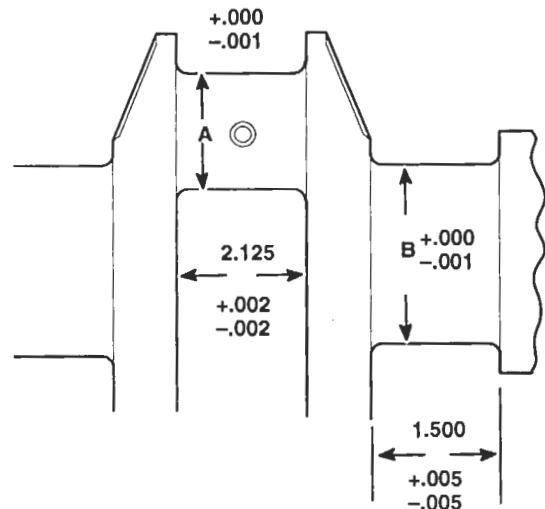

Figure 3. Dimensions of Crankshaft Journals
Measure all of the main and connecting rod bearing journals (Figure 3.) Measure the journals at several places on the circumference so that taper, out-of-round and bearing clearances can be determined. If the crankshaft is worn so that the maximum journal-to-bearing shell clearance (with new shells) exceeds .0044 inches, the crankshaft must be reground. Measurements of the crankshaft should be accurate to the nearest .0002 inch. Also, if the journal taper of a used crankshaft exceeds .0015 inch or the out-of-round is greater than .001 inch, the crankshaft must be reground.
1. Compare the crankshaft journal measurements taken during inspection with the dimensions in Table 2 (and in Figure 3.) to determine the size to which the journals are to be reground.